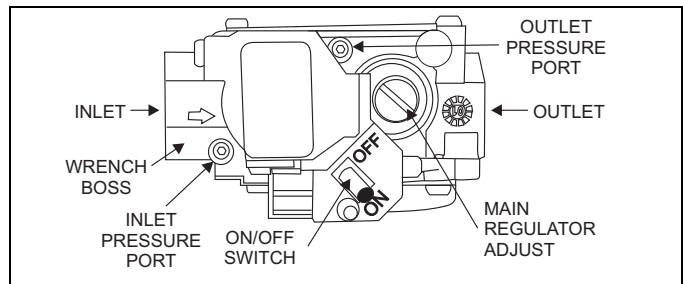

FIGURE 5: 36 G & 36J Gas Valve
2. Loosen the setscrew inside the inlet test port housing with a 3/32nd hex head wrench. Do Not Remove. See Figure 5.